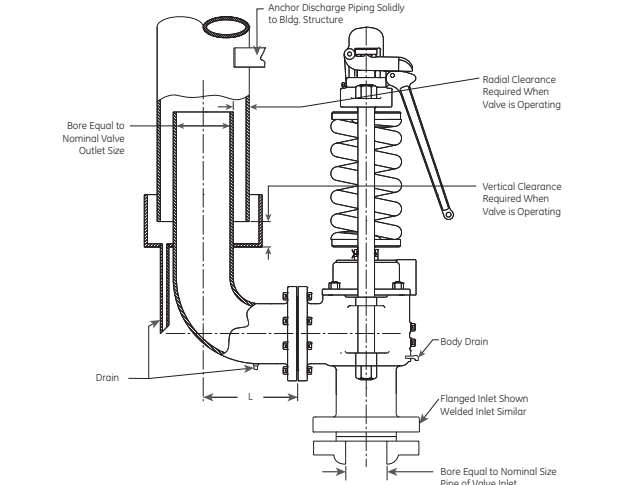

Figure 9: Recommended Installation for Discharge and Vent Piping
- The valve should be installed to meet all the requirements of Figure 9 and Table 1.